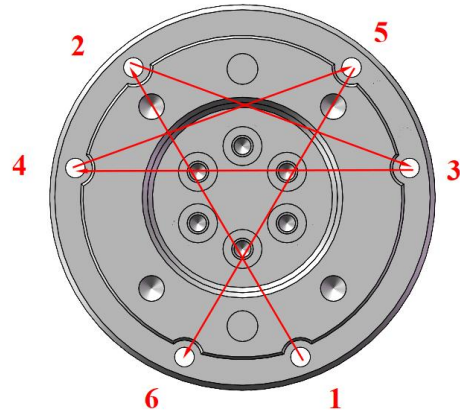

Figure 4 Sequence of Bolt Tightening When the Fixed End Is Secured
To ensure uniform force distribution among sensor components and at interfaces connecting the sensor to external robotic arms and custom tools, bolts should be tightened using the 'counter-rotating tightening' method, following the sequence shown in Figure 4.
- (1) The fixed-end adapter flange is mounted to the user equipment's end using four M6 bolts and a  $\Phi 6$  pin.
- (2) The pin hole of the six-dimensional force sensor is placed on the fixed end of the adapter flange.
- (3) Use an internal hex wrench to tighten the bolt through the embedded screw mounting hole, applying the 'counterclockwise tightening' method (as shown in Figure 4).